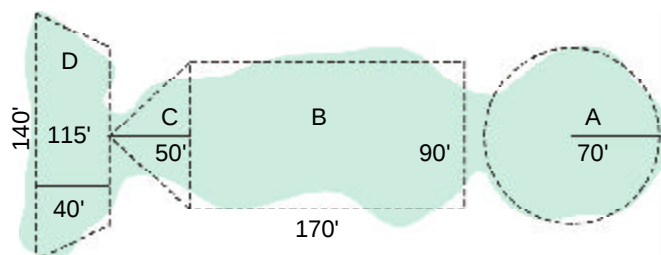

Figure 22. Calculate the area of the irregular shape by totaling the area of individual geometric shapes.
To apply the correct amount of pesticide, you need an accurate measure of the area to be treated. One method for calculating the size of an irregular area is to subdivide it into the closest approximation to geometric shapes, as shown in Figure 22. The area of each shape is calculated separately using the formulas in the box below. For example, the area of Figure 22 can be subdivided into a circle (A), a rectangle (B), a triangle (C), and a trapezoid (D). The total area of Figure 22 is then the sum of the individual areas of A + B + C + D.